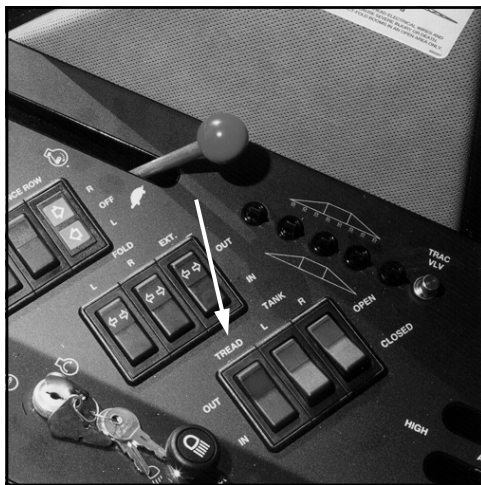

FIG 5.6
3. Locate the hydraulic tread adjust switch on the console panel (fig. 5.6). To adjust the tread in or out, depress and hold the corresponding side of the switch.